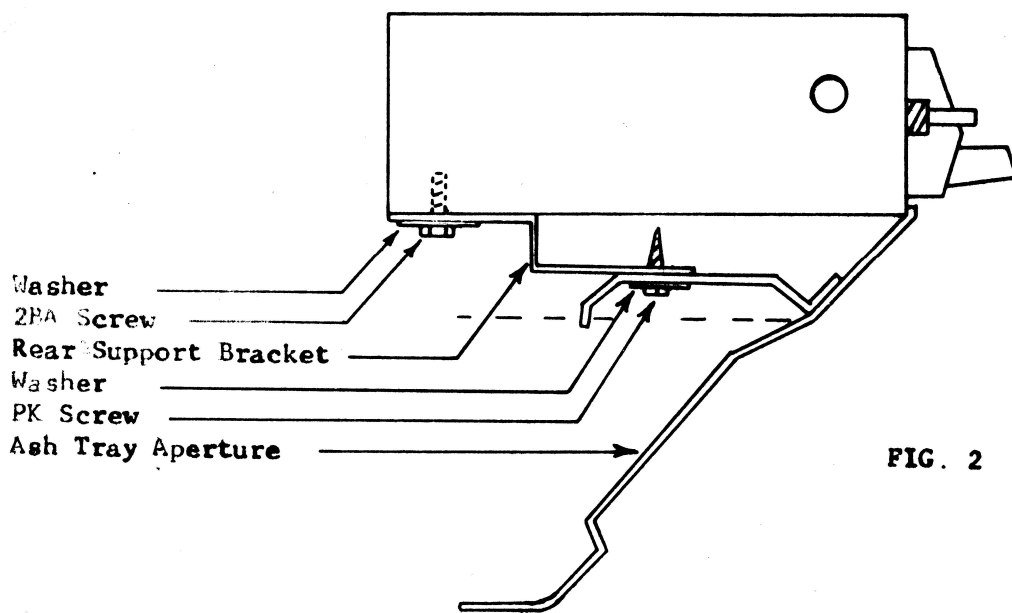

FIG. 2
4. Attach the rear mounting bracket to the rear under side of the radio unit by means of the screw and washers supplied. (Refer Fig.2).
7. Secure the rear support bracket to the dash through a hole directly and centrally above the ash-tray holder by means of a P.K. screw and washer. See Fig.2.